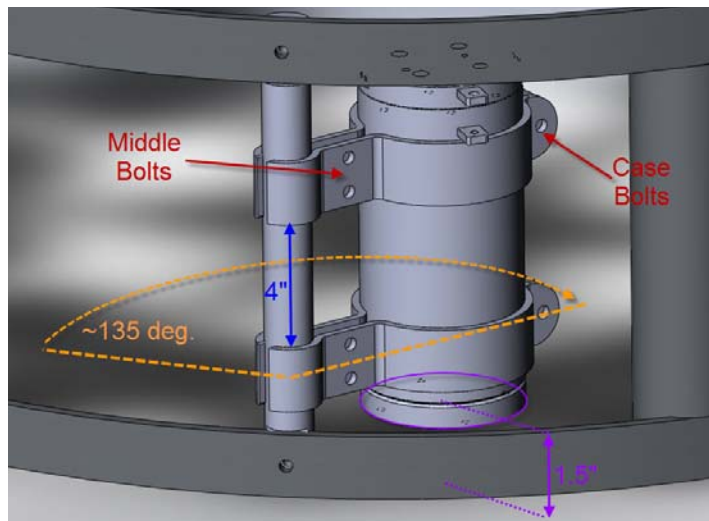

Figure 8: Placement of battery case.
- 3) Position battery case as shown (Figure 8). Place dunnage under case to raise bottom ~1.5" above rosette base. Install battery clamps as shown with supplied stainless hardware. First tighten four middle bolts, until clamps do not rotate on mounting post, then tighten two case bolts. Remove dunnage.